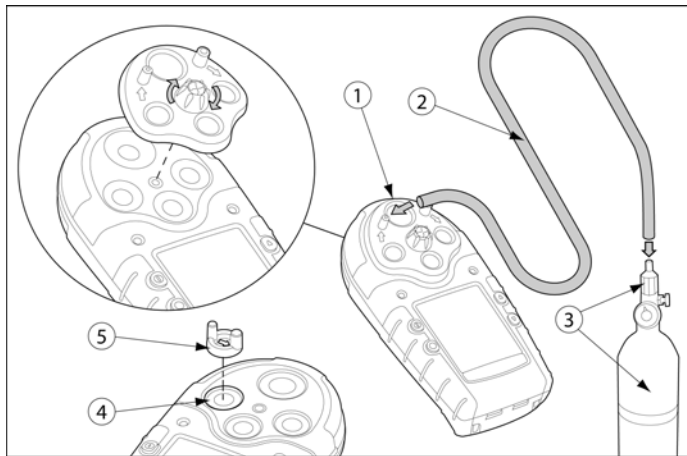

Figure 3. Applying Gas to the Sensors
The calibration cap, single gas calibration cap, and hose are shipped with the detector. Refer to Figure 3, and Table 11, for installation.
If an O₃ or ClO₂ sensor is located in the Toxic 2 position (refer to Figure 3, and Table 11), a single gas calibration cap must be used to ensure accurate calibration.
1. Insert the cap into the Toxic 2 sensor position on the detector (refer to Figure 3). Press firmly until the release tabs click.
Attach the calibration cap (or single gas calibration cap for O_3 and ClO_2) and apply gas to the sensor(s). To attach caps, refer to Figure 3.